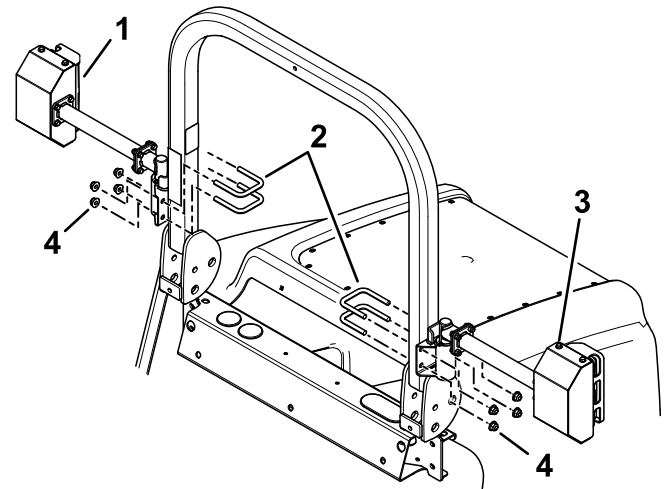

Figure 7
1. Install the left and right rear lights with 4 U-bolts and 4 flange nuts (3/8 inch) (Figure 7). Ensure that you do not cover the decal.